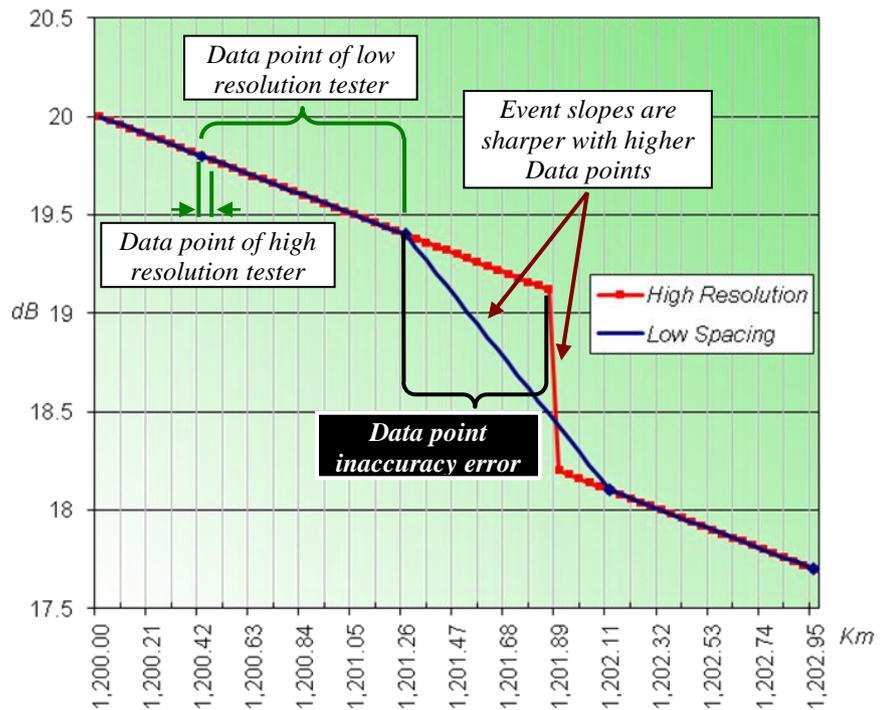

Fig 6; Data Point resolution of different C-OTDR's
- $8,000\text{km} / 10,000 = 800\text{m}$ (data point inaccuracy). See Fig 6,